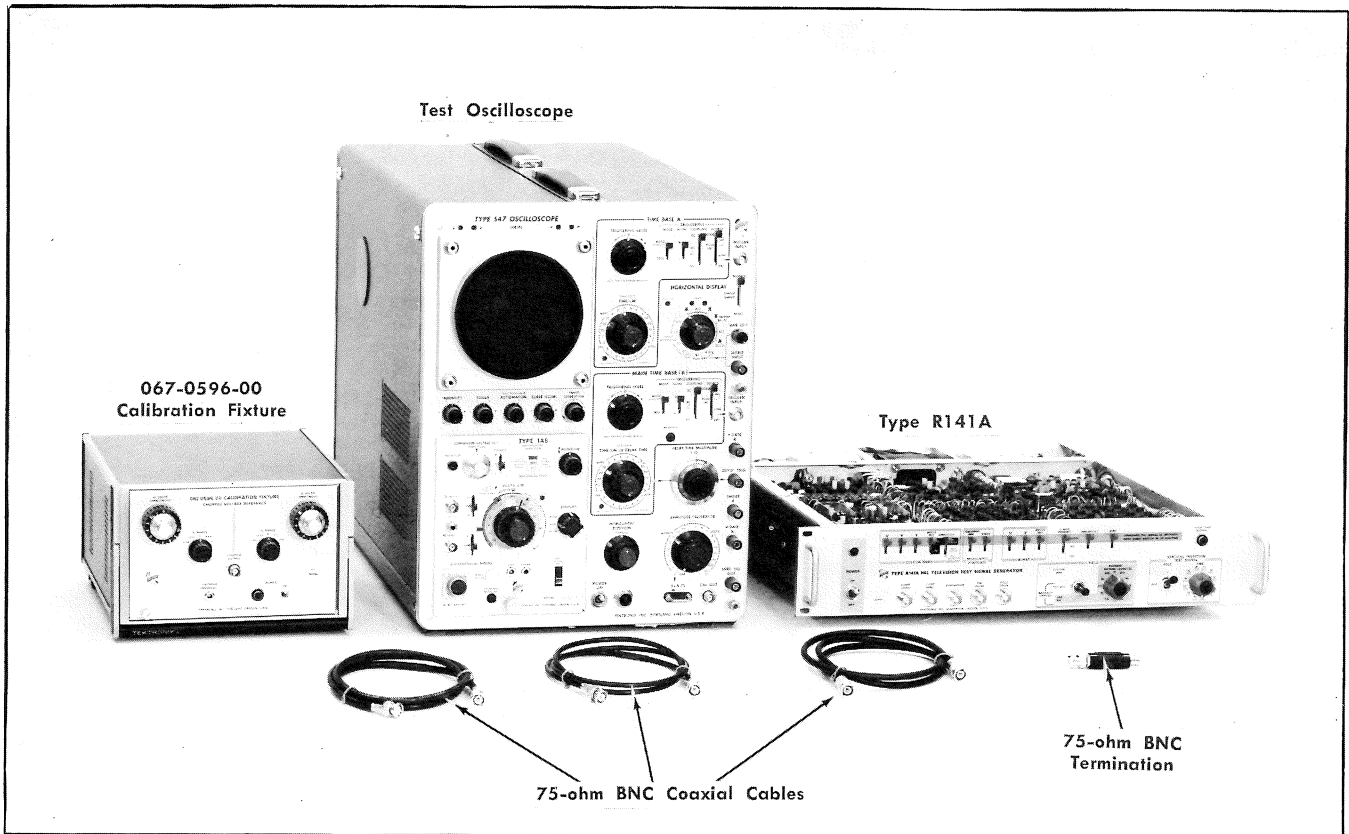

Fig. 5-6. Test equipment required for steps 6 through 10.
6. Check/Adjust Luminance Amplifier Gain ①
- a. Test equipment is shown in Fig. 5-6.